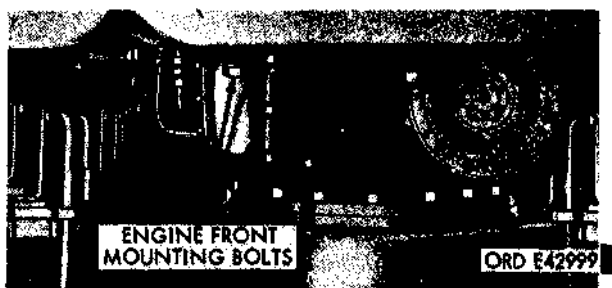

Figure 54.18. Engine front mounting.
(j) Remove engine front mounting support cap screws (figure 54.18). Remove five cap screws and lockwashers from engine front mounting.
1. With tension on engine lifting sling, aline holes in engine front mounting support with holes in front cross member and install four lockwashers and capscrews (figure 54.18), turning screws in only four or five threads.